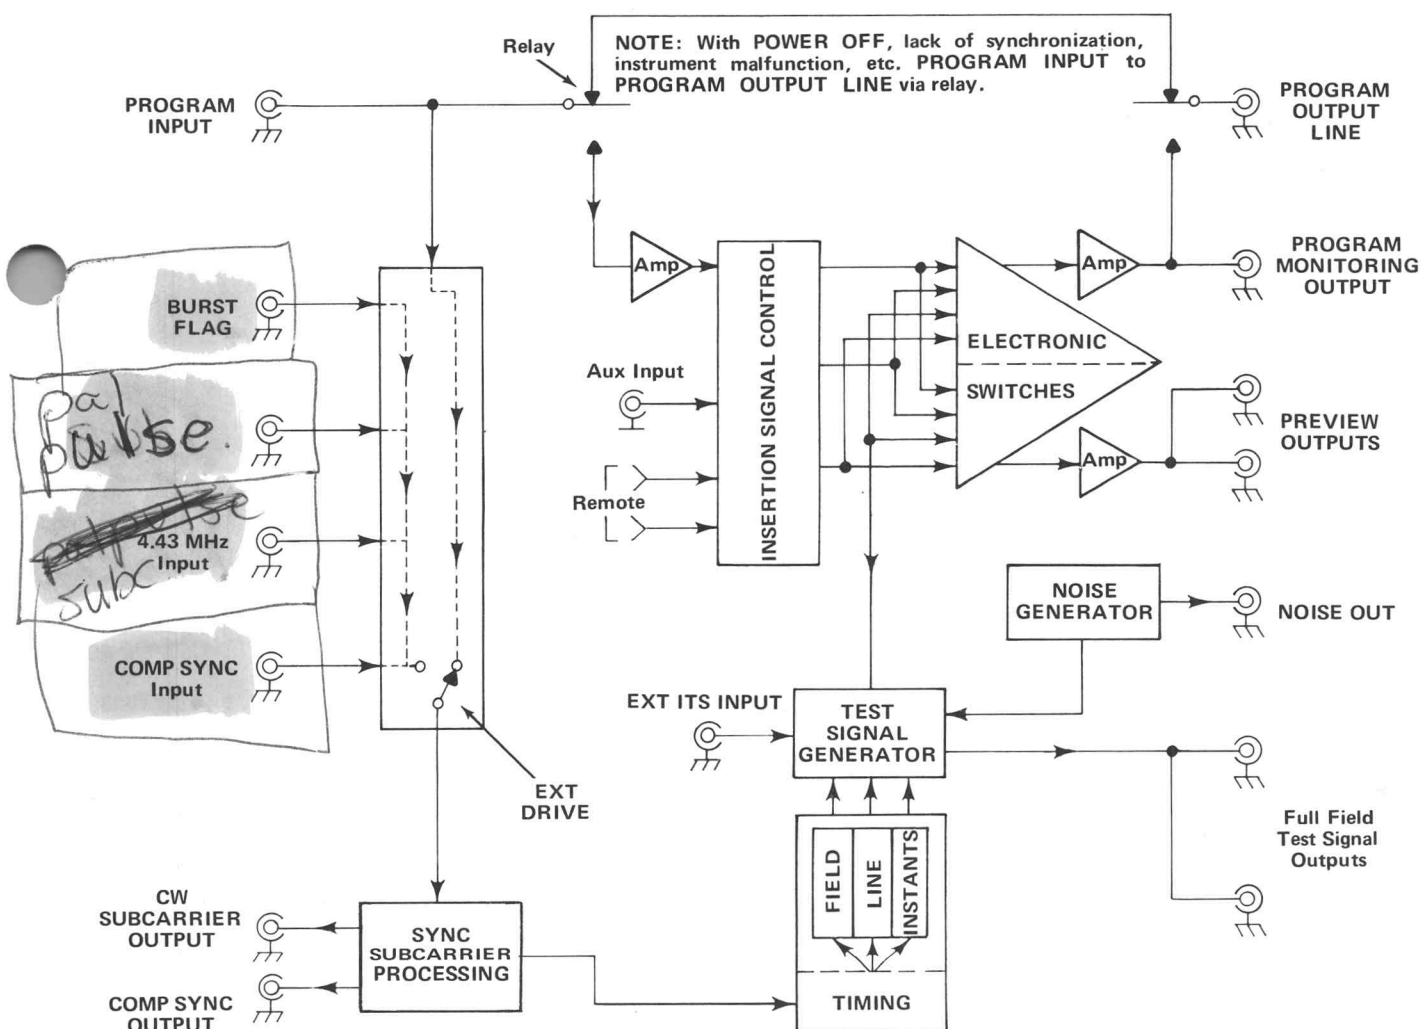

Fig. 3-1. Basic block diagram of the 148.
The 148 can be considered as in Fig. 3-1. Basically, the 148 consists of (1) A relay to provide bypass in the event of loss of power or when the instrument is in the bypass or auxiliary modes, (2) Sync and Subcarrier processing circuits to detect synchronization information, (3) Timing circuits to provide gate signals used for generation of the output
The block diagram relates the schematic circuitry to the operation of the 148, and is a transition between Fig. 3-1 and the schematic diagrams.